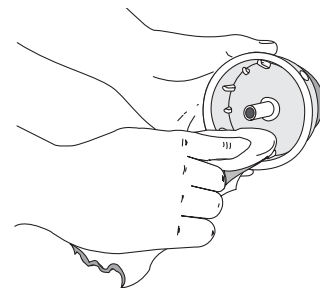

Figure 32
4. Use a clean cloth to wipe the inner reel, spring, shaft, and inner surface of the outer spool. See Figure 32.